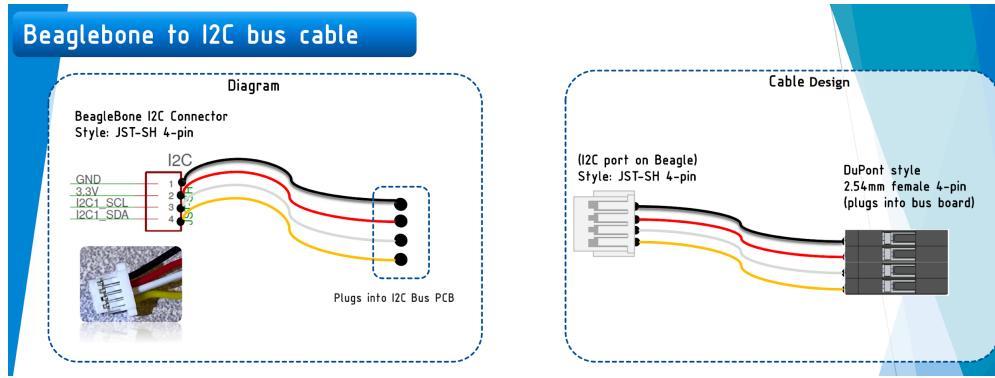

Figure 3 – JST 4 pin to I2C bus
- a. We use the 4-pin JST-SH connector as shown in Figure 3.